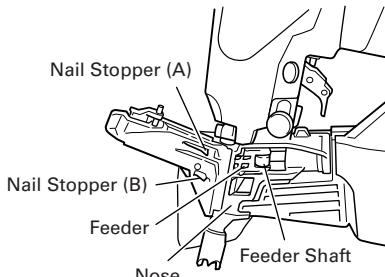

Fig. 18
- (2) Open the nail guide and remove dust, etc., as shown in **Fig. 18.** Apply lubricant to the sliding groove of the feeder and feeder shaft. Check nail stopper (A) and nail stopper (B) slide smoothly by pushing them with your finger.